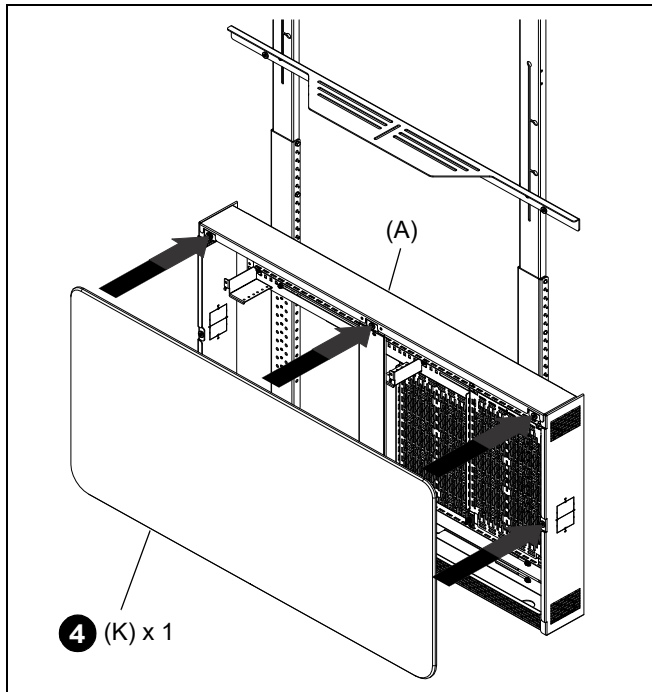

Figure 21
4. Position the base cover (K) over the front of the floor cabinet (A) and install using the attached magnets. (See Figure 21)